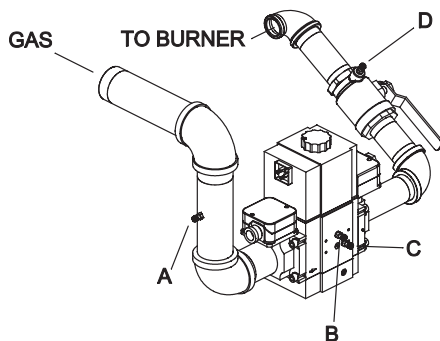

Fig. 55: Gas Pressure Measurement Locations
2. Attach (1) 12" scale manometer to an upstream bleedle valve on the gas supply pipe to the heater (Measure point "A" in Fig. 55).
1. Check blower suction using the manometer attached to the air pressure tee as shown in Fig. 55, with the heater firing at 100% input. The reading should be as noted in Table W for both natural and propane gas.
1. Check manifold gas pressure at the gas valve outlet pressure tap (connection "D" in Fig. 55). This pressure should read per the values in Table V for natural and propane gas.